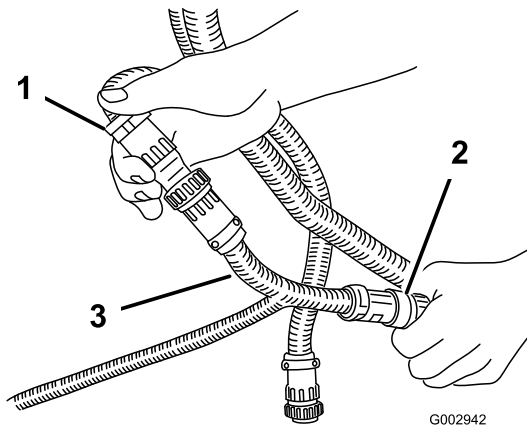
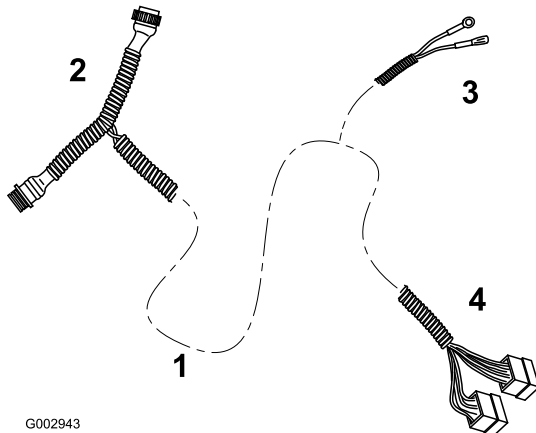
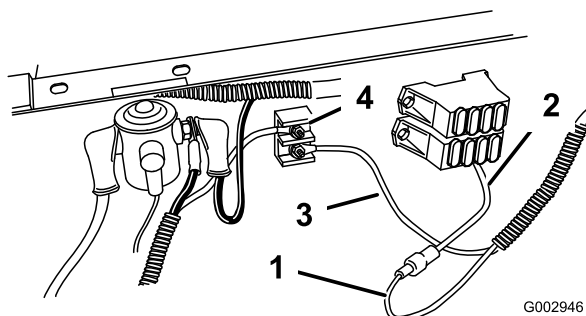

Figure 24
Figure 25
Figure 28
6. Disconnect the connectors under the dash between the manual control box and the spray harness (Figure 24).
7. Connect the T-end of the new rear control box harness between the manual control box harness and the spray harness (Figure 24 and Figure 25).
11. Connect the middle lead with the spade connector to the open lead on the fuse box under the driver's seat (Figure 25 and Figure 28).
13. Connect the middle lead with the eye ring connector to a ground stud on the ground terminal block (Figure 28).